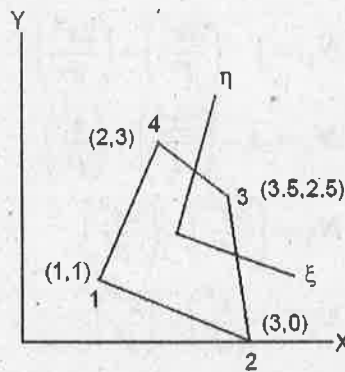

Fig. 15 (b)
- (b) (i) Why do we use natural coordinates? Differentiate between subparametric, isoparametric and superparametric elements. (5)
- (ii) For the four noded element shown in Fig. 15(b) determine the Jacobian and evaluate its value at the point $(1/3, 1/3)$. (8)